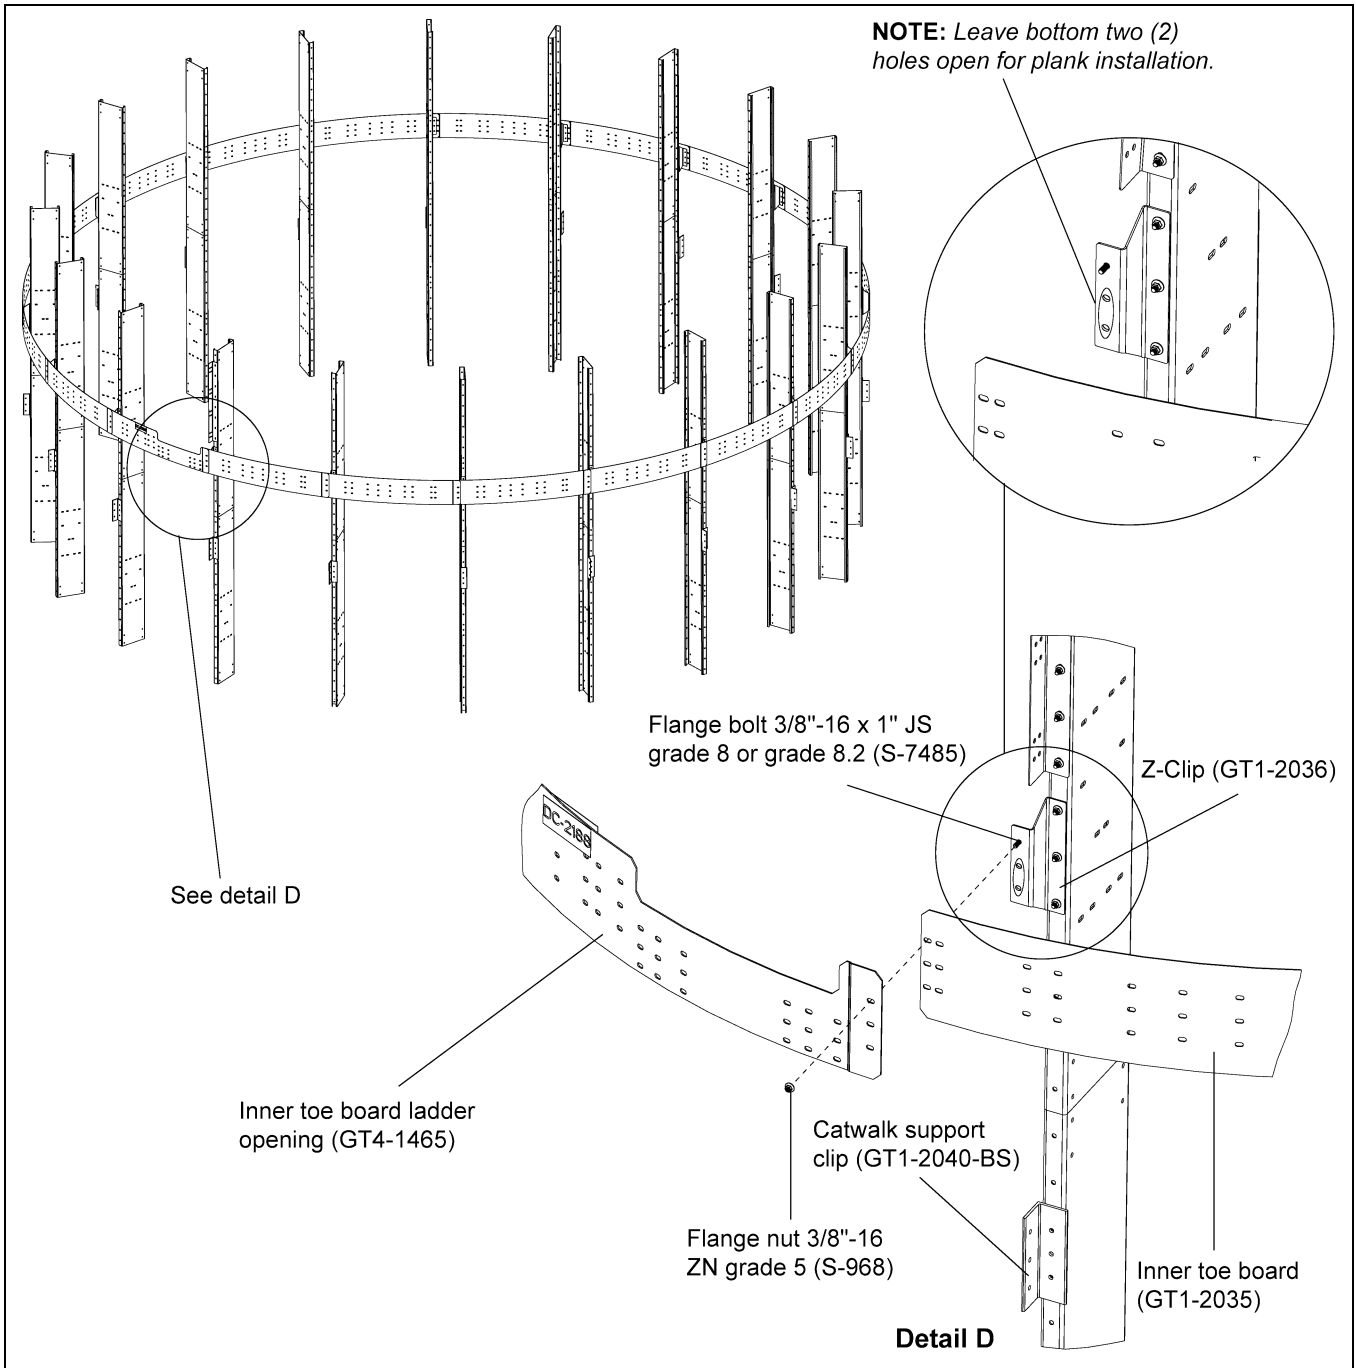
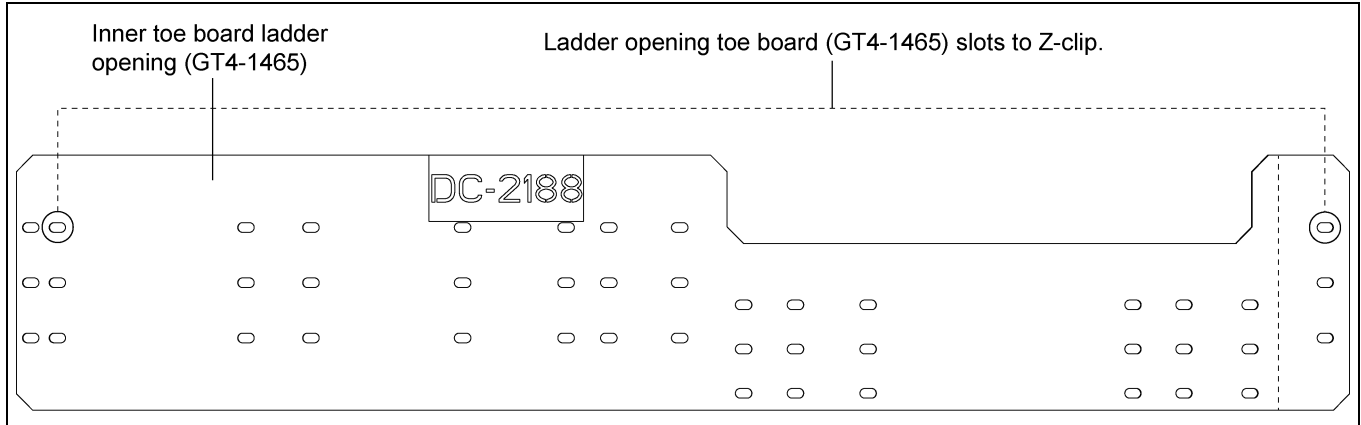

Figure 4G
Figure 4H 30' Ladder Opening Toe Board (GT4-1465)
1. Install the inner toe board (GT1-2035) to the Z-clips (GT1-2036). All toe boards should be installed between the Z-clips using 3/8"-16 x 1" JS grade 8 or grade 8.2 bolts (S-7485) and 3/8"-16 ZN grade 5 nuts (S-968). (See Figure 4G.)
2. At the ladder location, install the ladder opening toe board (GT4-1465) to Z-clips using 3/8"-16 x 1" JS grade 8 or grade 8.2 bolts (S-7485) and 3/8"-16 ZN grade 5 nuts (S-968) in such a way that toe board opening falls on the ladder path. (See Figure 4G below and Figure 4H on Page 18.)